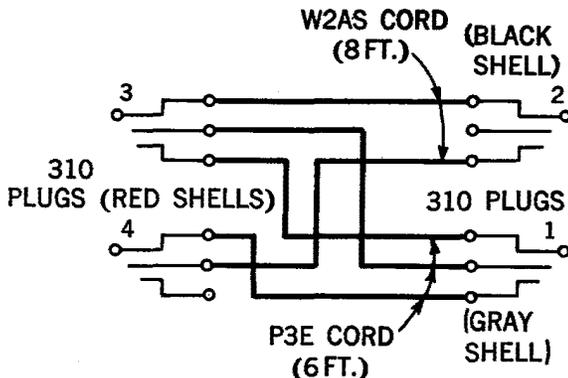
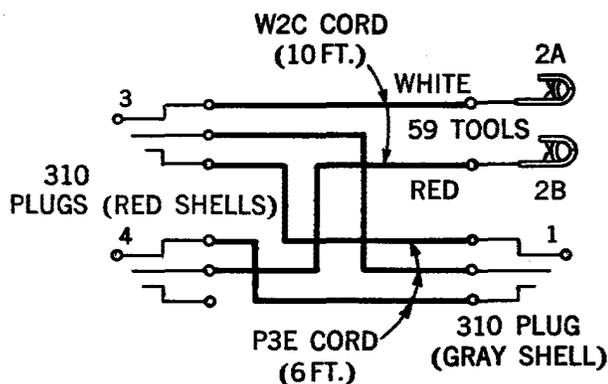

Fig. 1
Fig. 2
- 2.08 Testing cord made up locally, as shown in Fig. 1, where a frame battery supply jack is available; or Fig. 2 where the battery supply must be obtained by connecting to a fuse.
4b	If battery supply jack is available — Insert plugs 3 and 4 of the special cord per Fig. 1 into jacks 3 and 4 (or 4-100) of test set, respectively, and black shell plug 2 into BAT-GRD jack on the frame.
5c	<p>If battery supply jack is not available — Insert plugs 3 and 4 of the special cord per Fig. 2 into jacks 3 and 4 (or 4-100) of test set, respectively, and connect clip 2A attached to white conductor to equipment side of a fuse no larger than 3 amperes and clip 2B attached to red conductor to a frame ground.</p> <p>Note: To avoid possible grounding of the battery supply lead, connect the cord to the test set first and, when disconnecting, remove the cord from the test set last.</p>